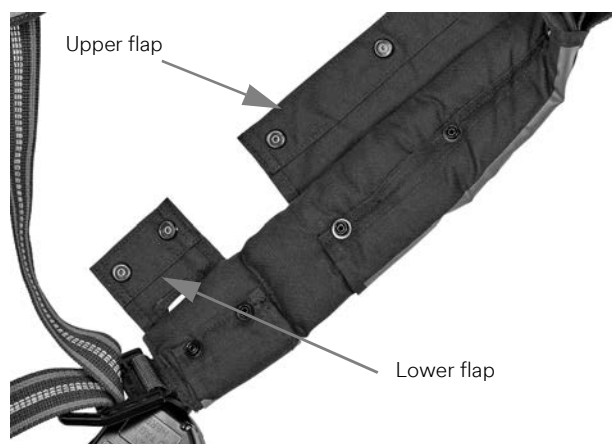

Figure 2-1 Opening the upper and lower shoulder pad flaps
- 1 Open the lower and upper flaps of both shoulder pads by unfastening the snap closures. See Figure 2-1.